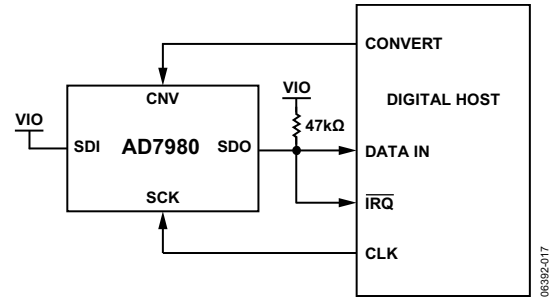
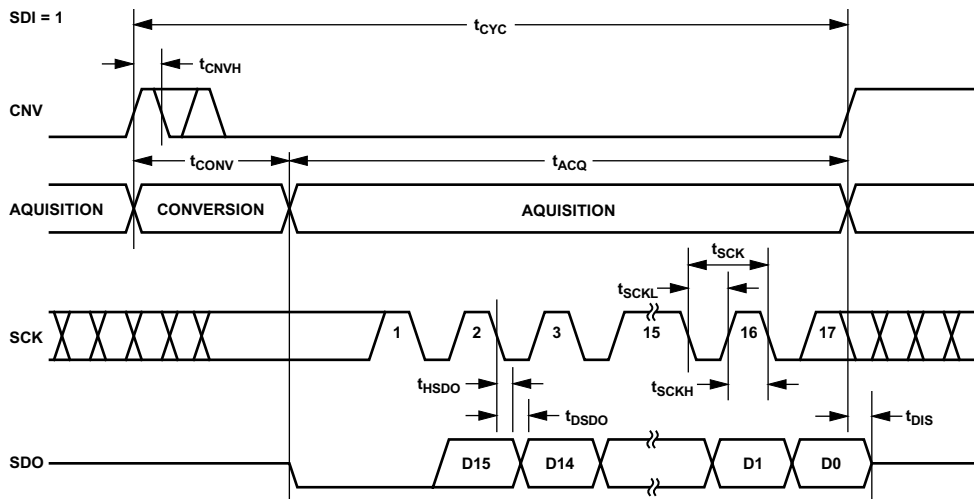
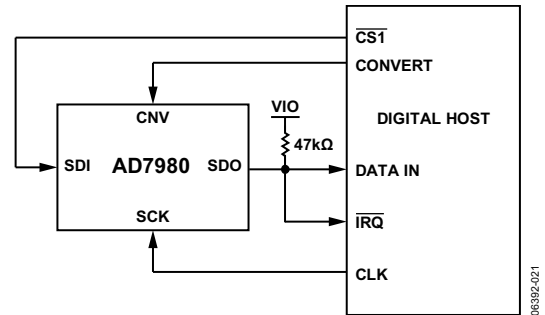
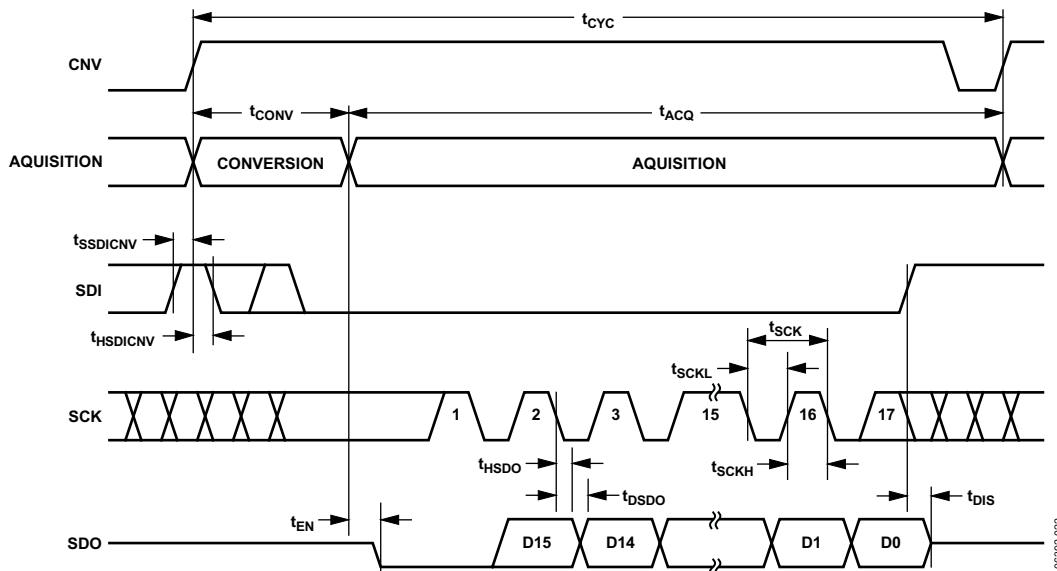

Figure 33. 3-Wire $\overline{\text{CS}}$ Mode with Busy Indicator Connection Diagram (SDI High)
Figure 34. 3-Wire $\overline{\text{CS}}$ Mode with Busy Indicator Serial Interface Timing (SDI High)
Figure 37. 4-Wire \overline{CS} Mode with Busy Indicator Connection Diagram
Figure 38. 4-Wire \overline{CS} Mode with Busy Indicator Serial Interface Timing
- In the $\overline{\text{CS}}$ mode if CNV or SDI is low when the ADC conversion ends (see Figure 34 and Figure 38).
The connection diagram is shown in Figure 33, and the corresponding timing is given in Figure 34.
The connection diagram is shown in Figure 37, and the corresponding timing is given in Figure 38.